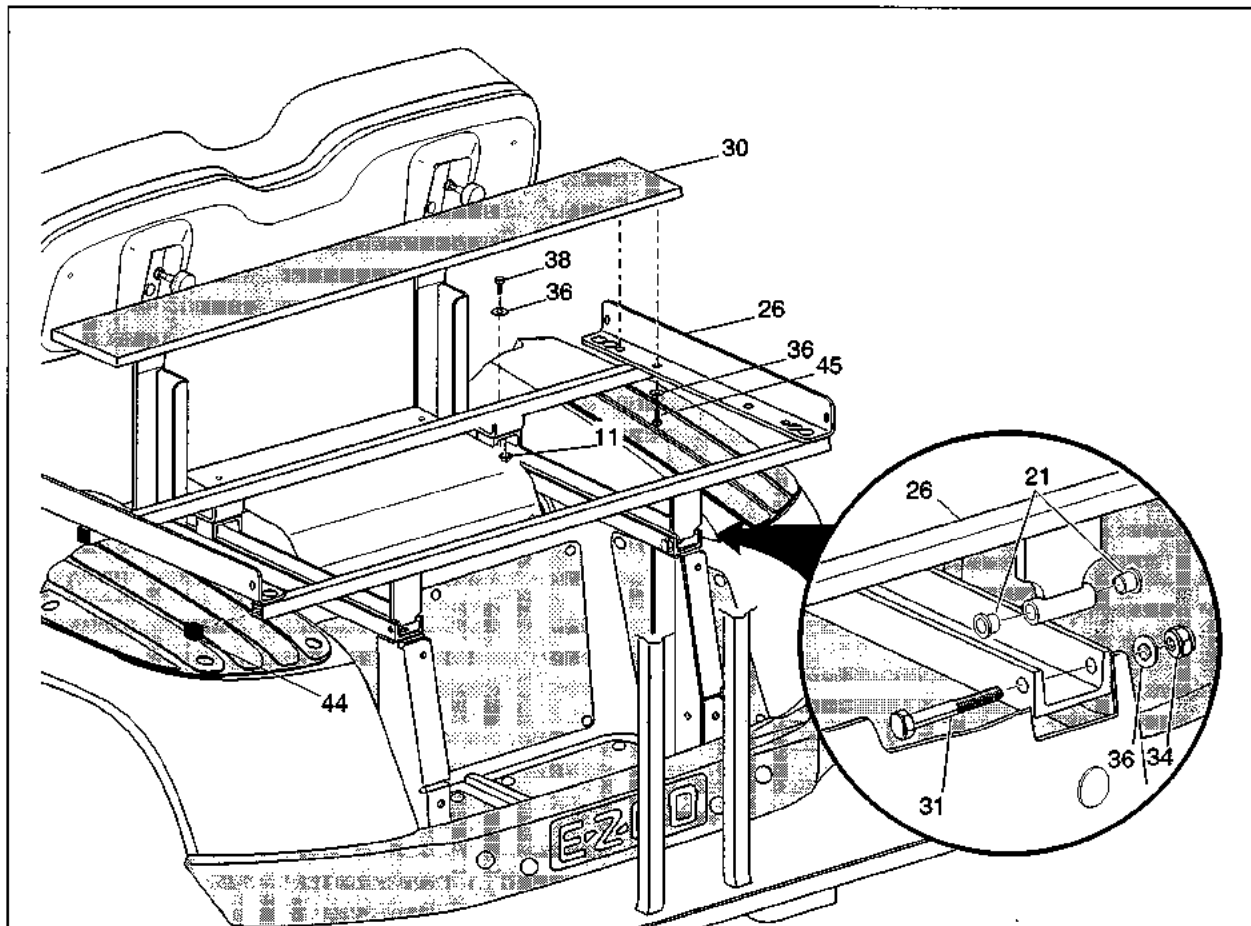

Fig. 6
3. As a 'test fit', place the support frame (item 26) into the channels of the seat back support (See Fig. 6) and tighten the hardware securing the seat back support to the vehicle frame and vertical frame support to 21-25 ft. lbs. torque.
F. INSTALLING SUPPORT FRAME (Refer to Fig. 6)
1. Insert the nylon bushings (item 21) into the pivot brackets in the support frame (item 26) (4 places).
3. Insert the bolt (item 31) through the pivot from the center of vehicle (2 places) and secure with washer (item 36) and nut (item 34).
4. Secure front of support frame to seat back support using bolt (item 38), washer (item 36) and nut (item 11).
5. Insert end plug (item 44) in each end of both tubes of support frame.
G. INSTALLING FIXED BED (Refer to Fig. 6)
1. Attach fixed bed (item 30) to support frame (item 26) using bolt (item 45) and washer (item 36). (Two places on each end of fixed bed. Do not tighten hardware at this time as some adjustment may be necessary.